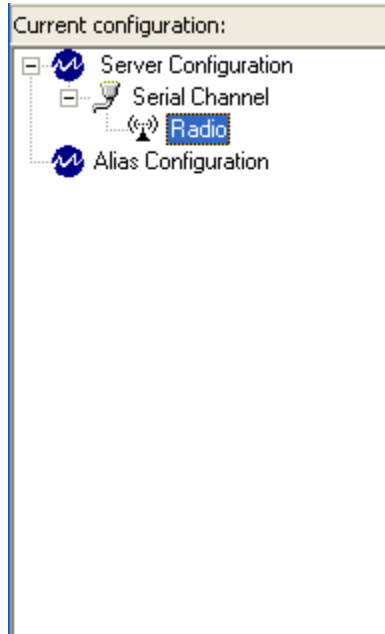

Figure 45 - New Radio Object
- Click on the **OK** button. The object is created and will appear as a child of the **Serial Channel** item as shown in Figure 45.